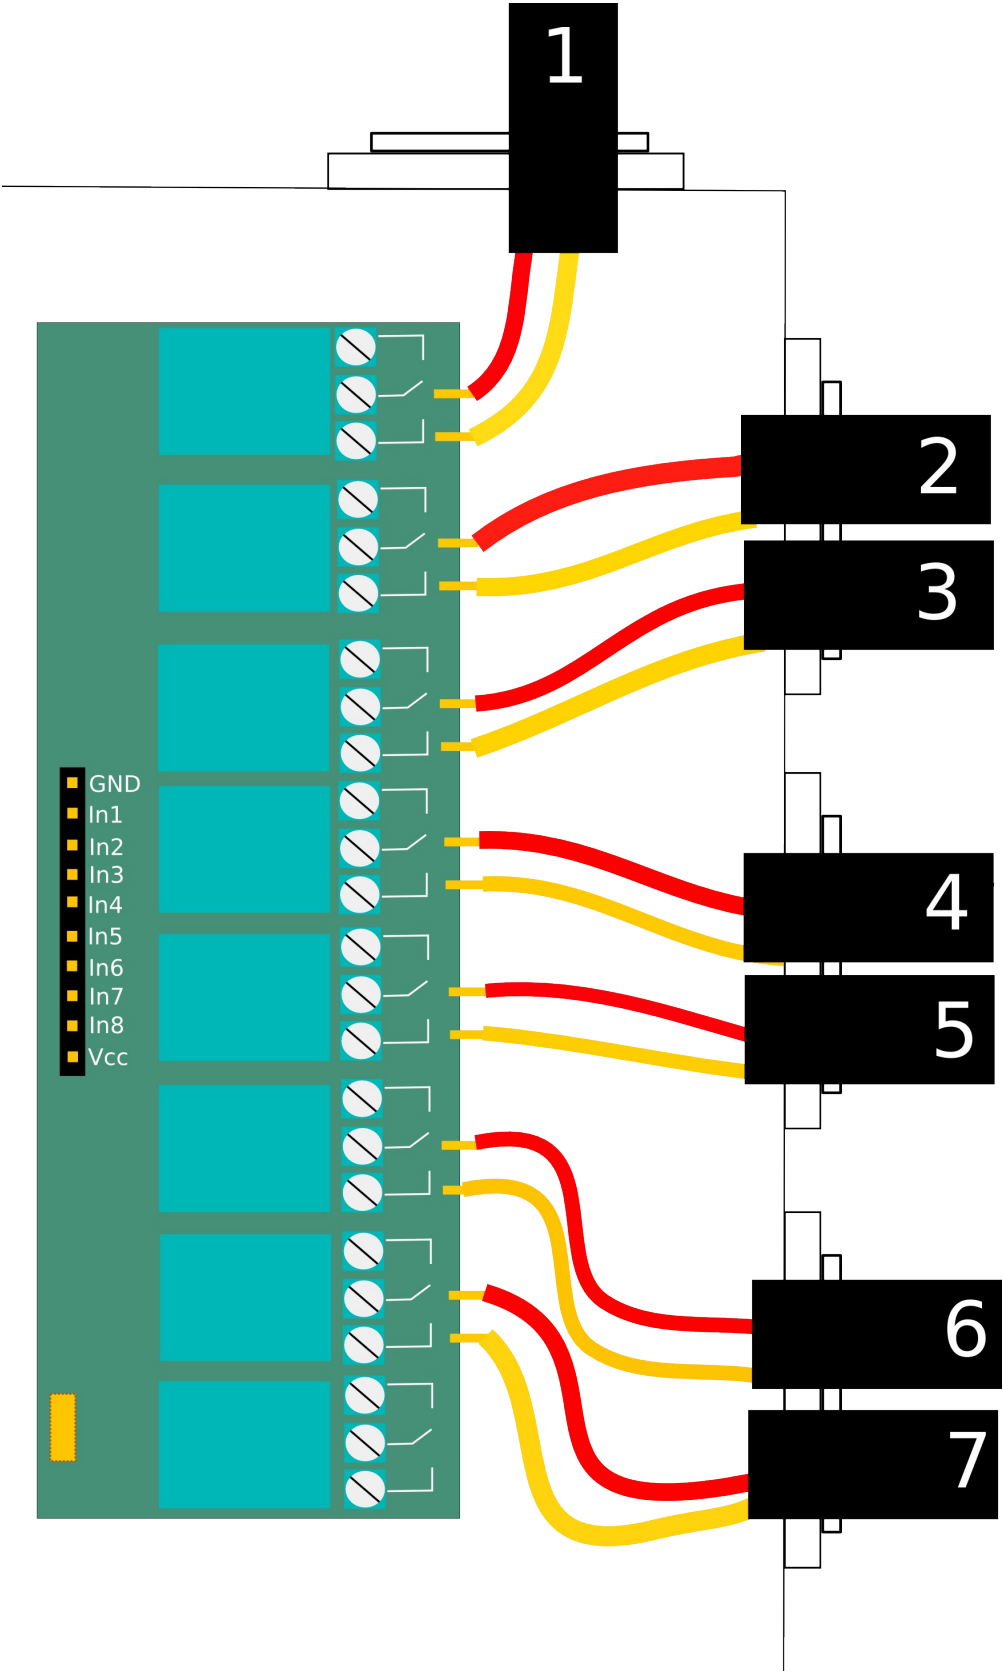

Figure C3: Wiring Diagram
9. Carefully place the stripped wires into the terminals. The red wires for each projector go into the center terminal. The yellow wires go into the normally open terminal. See *Figure C3* for the full wiring diagram.